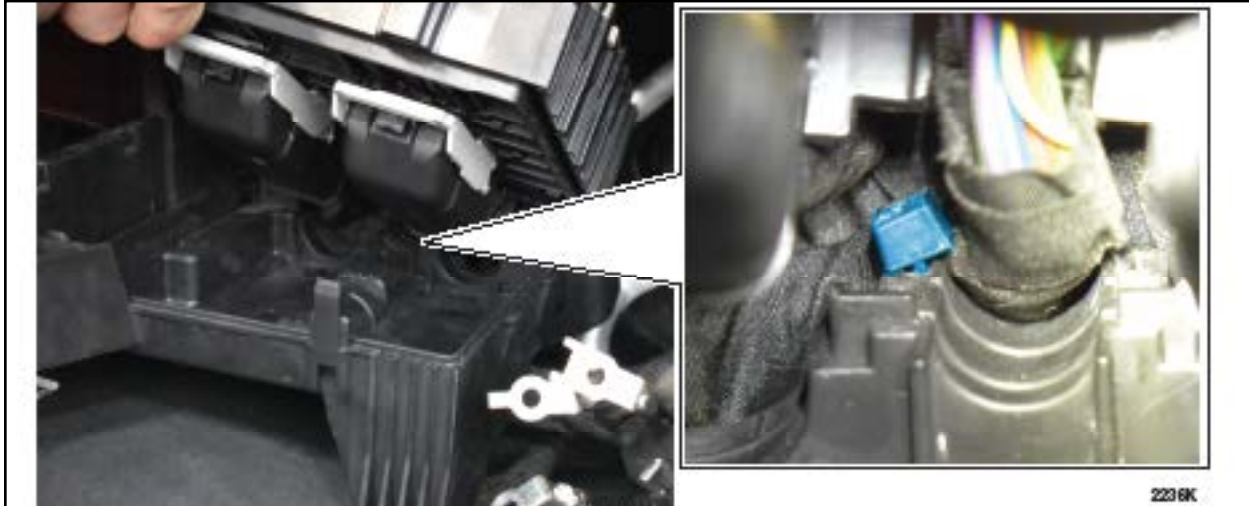

FIGURE 14
A. Ensure that the zip tie connecting the middle wire harness to the lower portion of the BJB is replaced. See Figure 14.